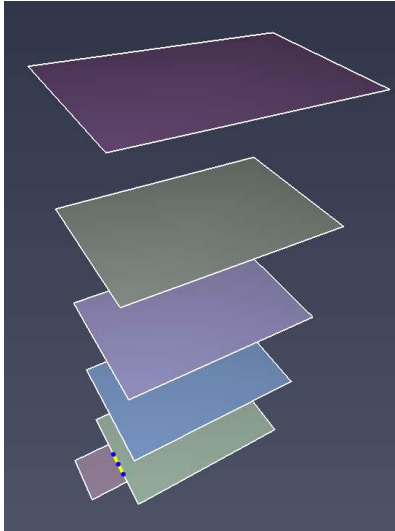

Figure 67. Draw elevator door
2. Draw all doors on the boundary of the base room, see Figure 67. Occupants will use these doors on every floor to enter and exit the elevator.